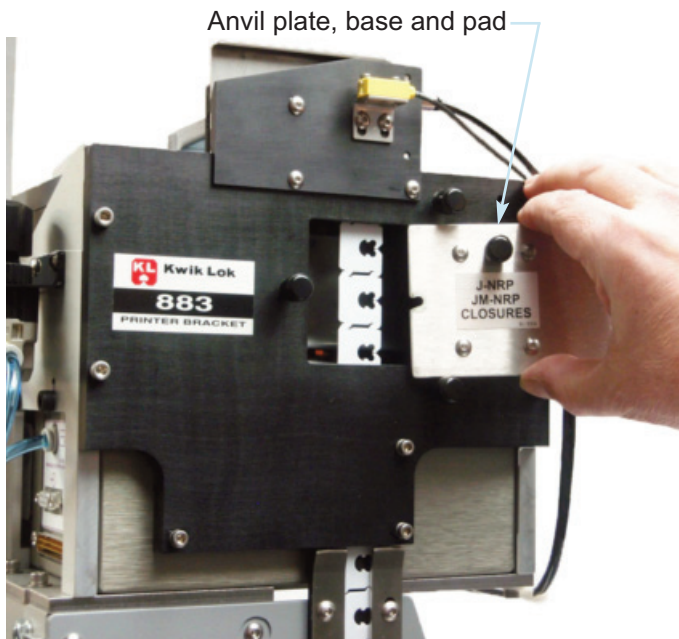

Figure 4.1
A. ANVIL PAD REPLACEMENT: Figure 4.1- 4.3
1. Remove the anvil assembly from the printer frame as shown in Figure 4.1.